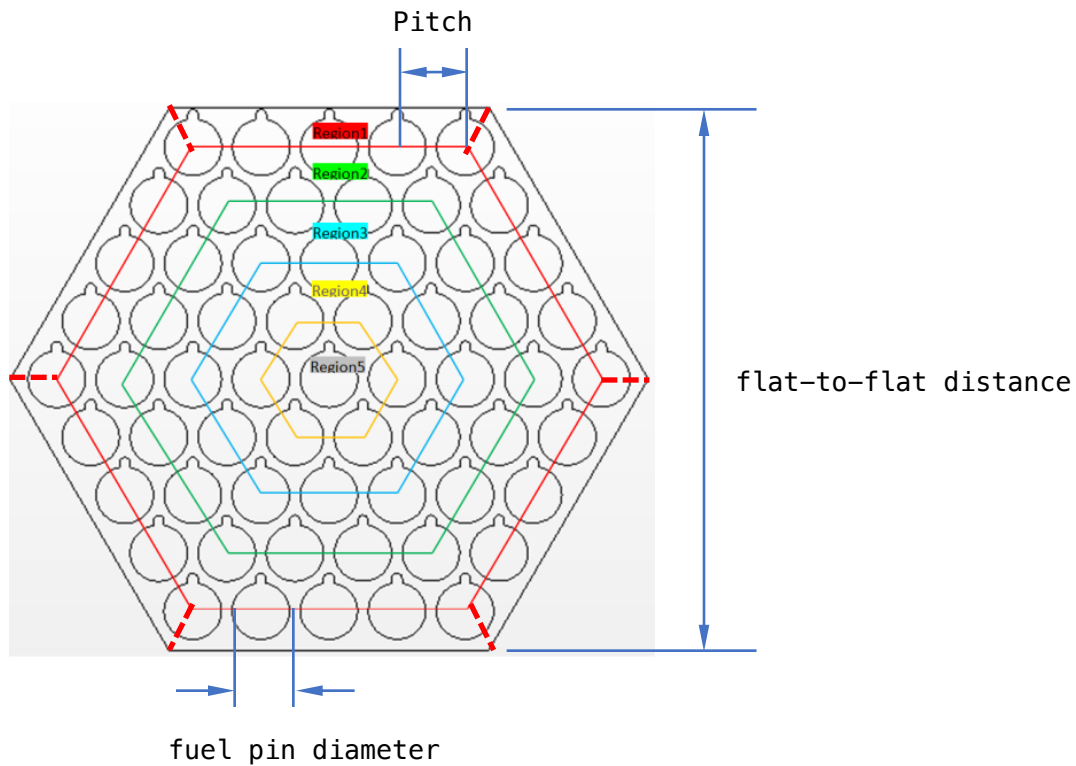

Figure 4.9: Sketch of the regions in the multi-channel model.
To improve the heat transfer between the duct wall and coolant flow, a multi-channel rod bundle model is developed in SAM to account for the temperature differences between the center region and the edge region of the coolant channel in a fuel assembly. Similar approach has been proposed in ENERGY (Yang and Joo, 1999), SAS4A/SASSYS-1 (Fanning 2012), as well as the multi-region porous medium model reported by Yu et al. (2015). The whole fuel assembly can be divided into a number of regions, as shown in figure 4.9. It is quite remarkable that the volumetric heat flux in region 1 is significantly less than that in other regions, based on analytical calculations. Each inner region is modeled as an average core-channel (i.e., a 1-D coolant channel and an average fuel pin). The edge region can be modeled as one core-channel or six core-channels to account for the differences in heat transfer with each side of the duct wall. This zoning strategy is also inspired from the authors' previous experiences in the CFD simulations of the triangle-lattice pin bundles. As shown in the Hu and Yu (2016), large temperature gradient were observed in the coolant region near the duct wall, but the temperature distribution elsewhere is very uniform except the hot spots due to the wire-wrap effects.
Number of zones (regions) of the MultiChannelRodBundle. For example, **n_zones = 5** in figure 4.9. Note that it is different than the same parameter defined in FuelAssembly (see section 4.3.8), which splits the fuel assembly in the axial direction.
Number of fuel pin rings of the MultiChannelRodBundle. As shown in figure 4.9, it is also the same as the number of fuel pins on the side of MultiChannelRodBundle. In figure 4.9, **n_side = 5**.
Number of core-channels to be modeled in this MultiChannelRodBundle component. It has to be either the same as `n_zones`, such that one core-channel for each zone, or equal to `n_zones+5`, such that the out most zone is modeled as six (6) core-channels and one core-channel for each inner zone. For example, as shown in figure 4.9, if `n_channel = 5`, one core-channel will be created for each zone (region) 1 to 5; however, if `n_channel = 10`, one core-channel will be created for each zone (region) 2 to 5, while 6 core-channels are to be created for zone (region) 1. One can easily figure out that MultiChannelRodBundle currently only supports a hexagonal fuel bundles such as the one shown in figure 4.9.
This parameter specifies the flat-to-flat distance of the assembly, see figure 4.9.
The fuel pin diameter, same for all PBCoreChannels, see figure 4.9.
The distance between fuel pin centers, see figure 4.9.